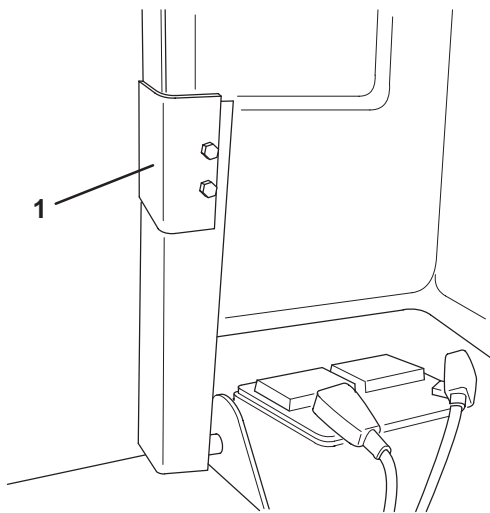

Figure 16
- Mount skid plate to hood lip with (2) 5/16–18 x 1" lg. capscrews, 5/16 x 1–1/4 flat washers and lock nuts. Position skid plate as shown in figure 16.